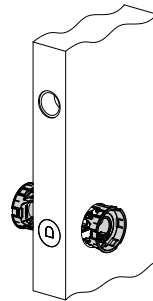

Fig. 2
3. Apply the two plastic supports of the encased plates in their housing ø48 (Fig. 2). The supports must be inserted opposite and rotated 180° between them, in this way they engage each other, until their stopping on both sides of the door and adapting automatically to the thickness of the panel.